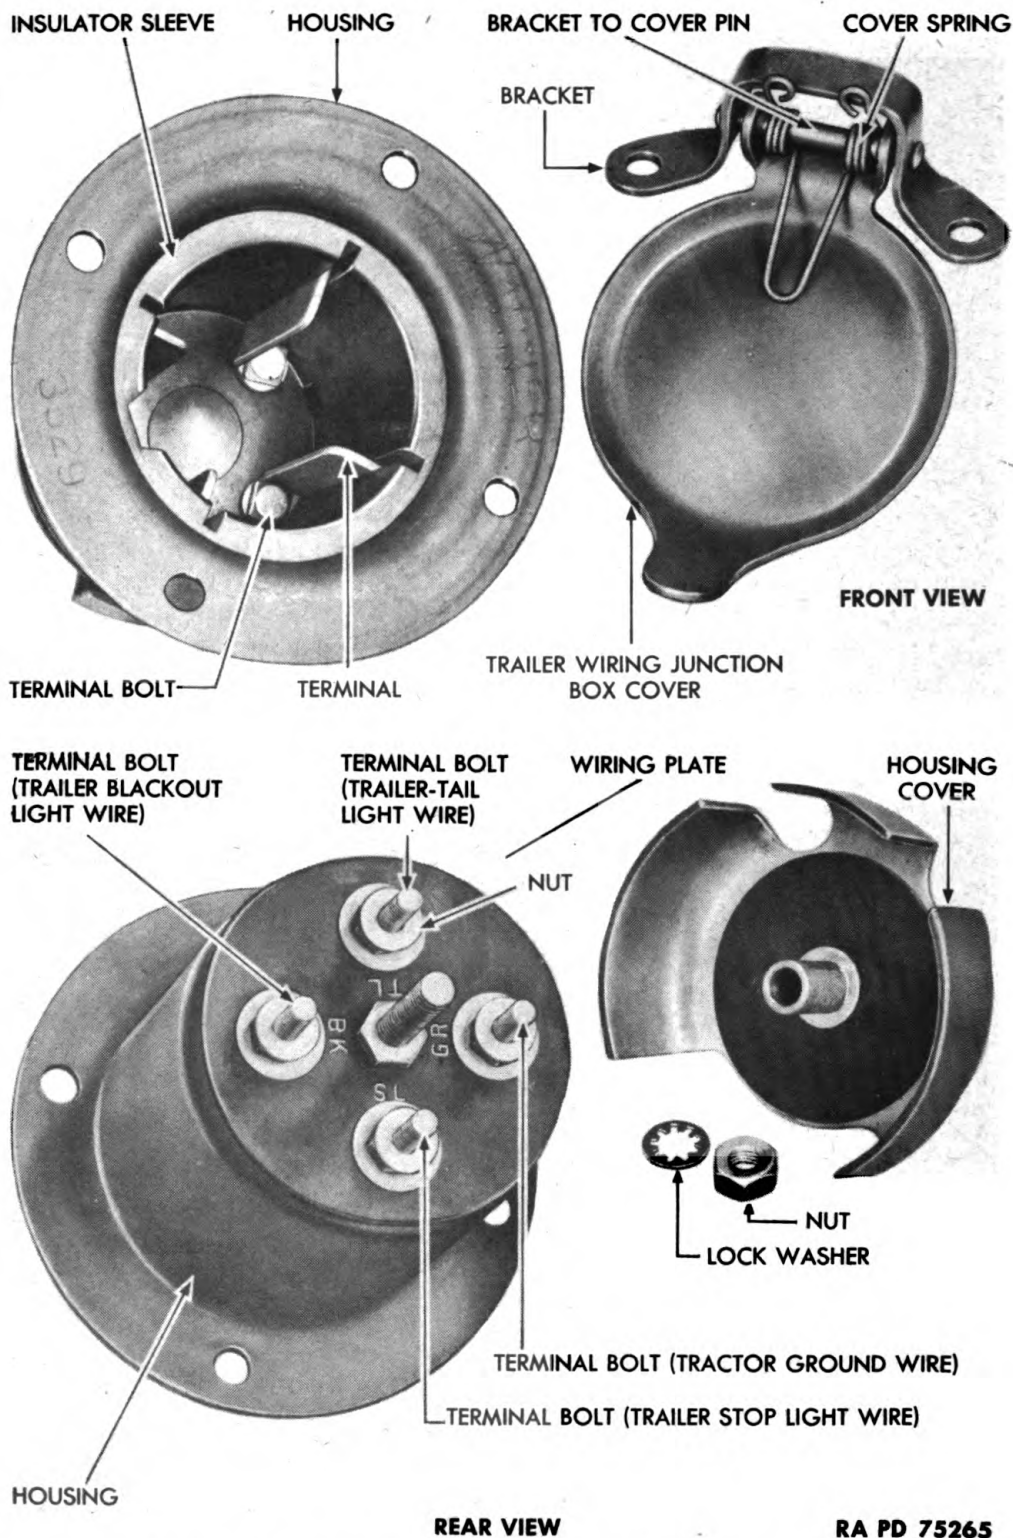

Figure 75 — Trailer Wiring Junction Box and Cover
(1) **TRAILER WIRING JUNCTION BOX COVER** (fig. 75). Drive bracket to cover pin out of cover and bracket, and remove trailer wiring junction box cover from trailer wiring junction box along with cover spring and bracket.
(2) **DISASSEMBLE TRAILER WIRING JUNCTION BOX** (figs. 75 and 76). Remove a brass washer and a lock washer from each of four terminal bolts, then remove a nut and plain washer from each of four terminal bolts. Pull four terminals with terminal bolts out of insulator sleeve, and pull insulator sleeve out of housing. Remove nut from housing cover bolt, and remove wiring plate and housing cover bolt from housing.
(1) **TRAILER WIRING JUNCTION BOX COVER** (figs. 75 and 76). Install bracket to cover pin through one side of trailer wiring junction box cover and bracket, and install cover spring on pin. Push pin through opposite side of cover and bracket, then rivet pin onto cover.
(2) **TRAILER WIRING JUNCTION BOX** (figs. 75 and 76). Install housing cover bolt in housing, then install wiring plate on housing. Install nut on bolt. Install insulator sleeve in housing so that long lug on sleeve passes through large hole in plate. Install terminal bolt on terminal, and install terminal in insulator sleeve so that notched portion of terminal is in slot of insulator sleeve. Install plain washer on terminal bolt, then install nut on bolt. Repeat procedure on remaining three terminals, then install four lock washers and four brass washers on each of four terminal bolts.